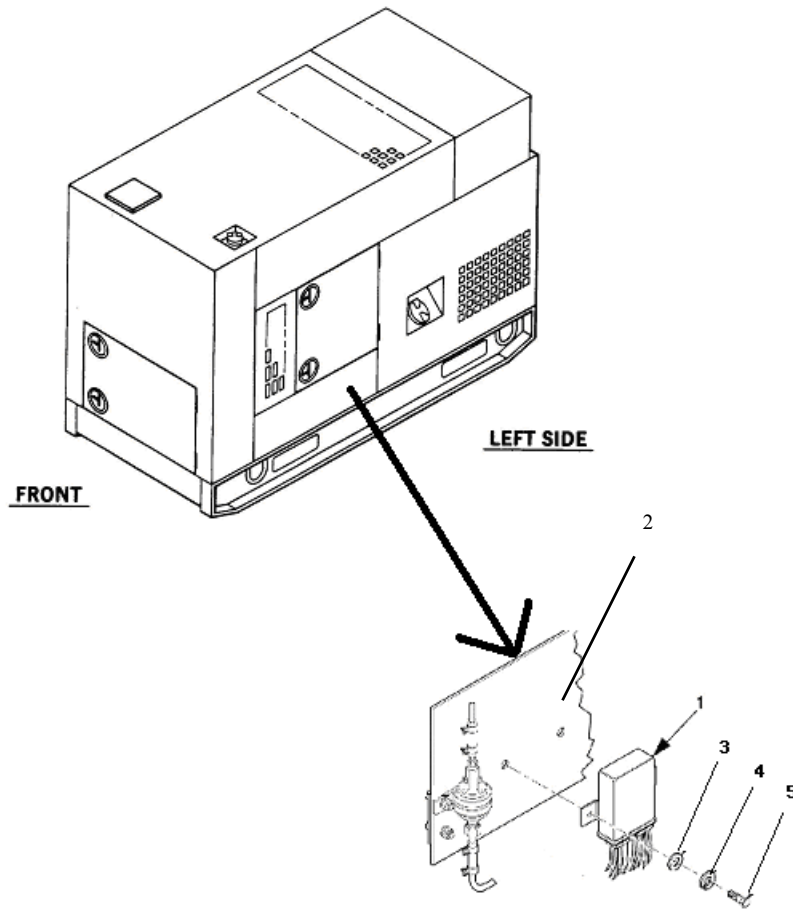

Figure 4-37. Control Unit Removal
6. Remove control unit, (1), Figure 4-37, from output box (2). Replace existing hardware: flatwasher (3), lockwasher (4), and bolt (5).